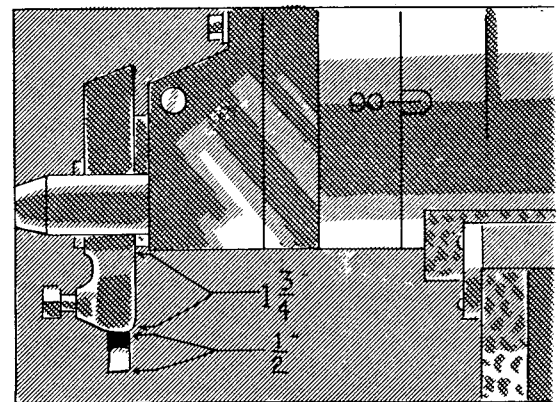

FIG. 468
1. Set the tool head in a vertical position, using the graduation on the head to indicate when the head is in a vertical position (Fig. 468).
4. Place the tool in the tool holder so that the point of the tool projects about $1/2$ " beyond the end of the tool holder (Fig. 468).
6. Place the assembled tool and tool holder in the tool post in a vertical position and have the end of the tool holder project about $1-3/4$ " beyond the bottom of the clapper box (Fig. 468).
9. Adjust the tool slide until it is about even with the bottom of the tool head (Fig. 468).